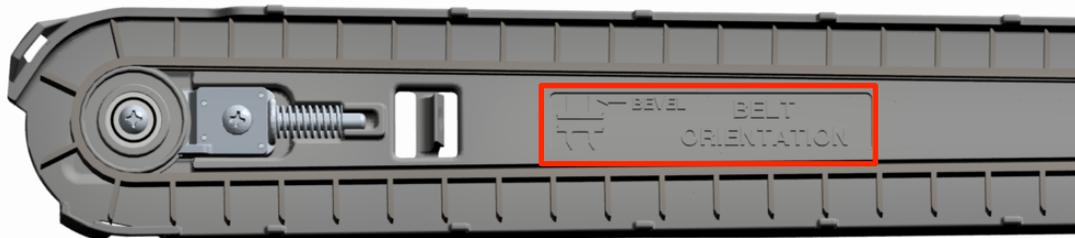

Figure 8
**Note: When re-installing the belt, take notice of the flight orientation. Reference the diagram molded into the SpeedTube housing for correct orientation. Refer to figure 8.**